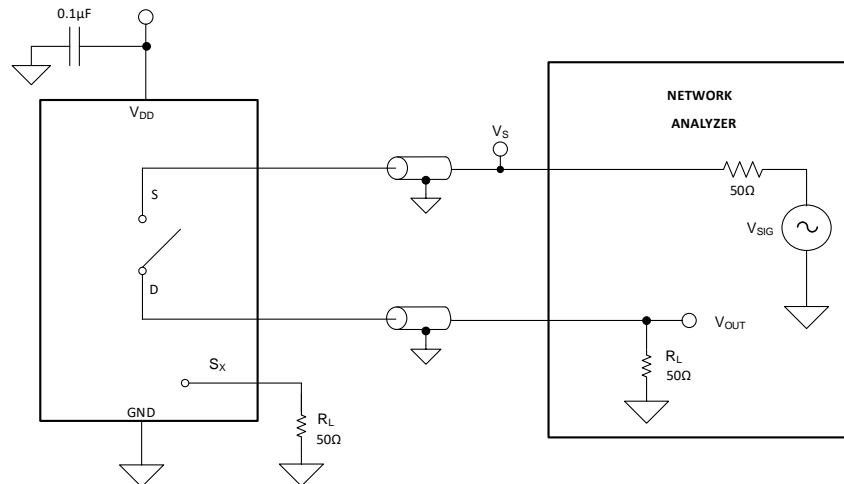

图 13. Off Isolation Measurement Setup
Off isolation is defined as the ratio of the signal at the drain pin (D) of the device when a signal is applied to the source pin (S_x) of an off-channel. 图 13 shows the setup used to measure, and the equation used to calculate off isolation.